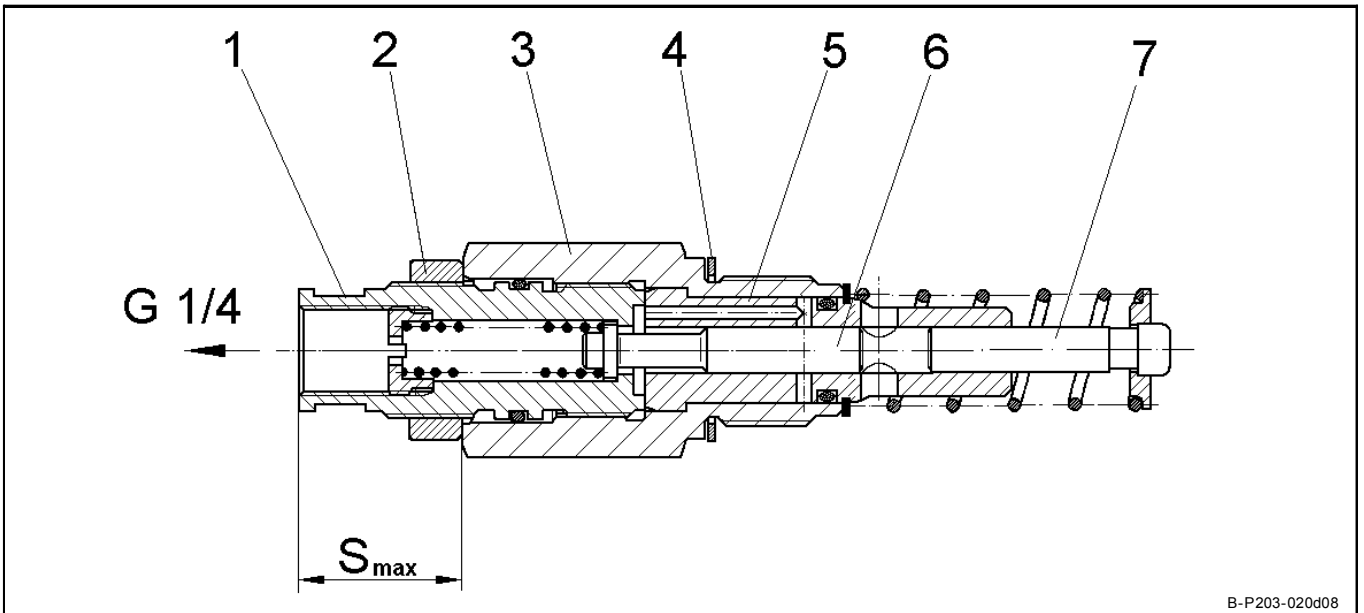

Fig. 4-2 Sectional view: adjustable element
- The pump elements are factory-adjusted to the maximum lubricant output; the adjusting dimensions "S" should be  $29 \pm 0.1$  mm (see fig. 4-2).
- Loosen counternut 2 (fig. 4-2).
- Loosen counter nut 3 (fig. 4-2) while holding in position pump element body 2.